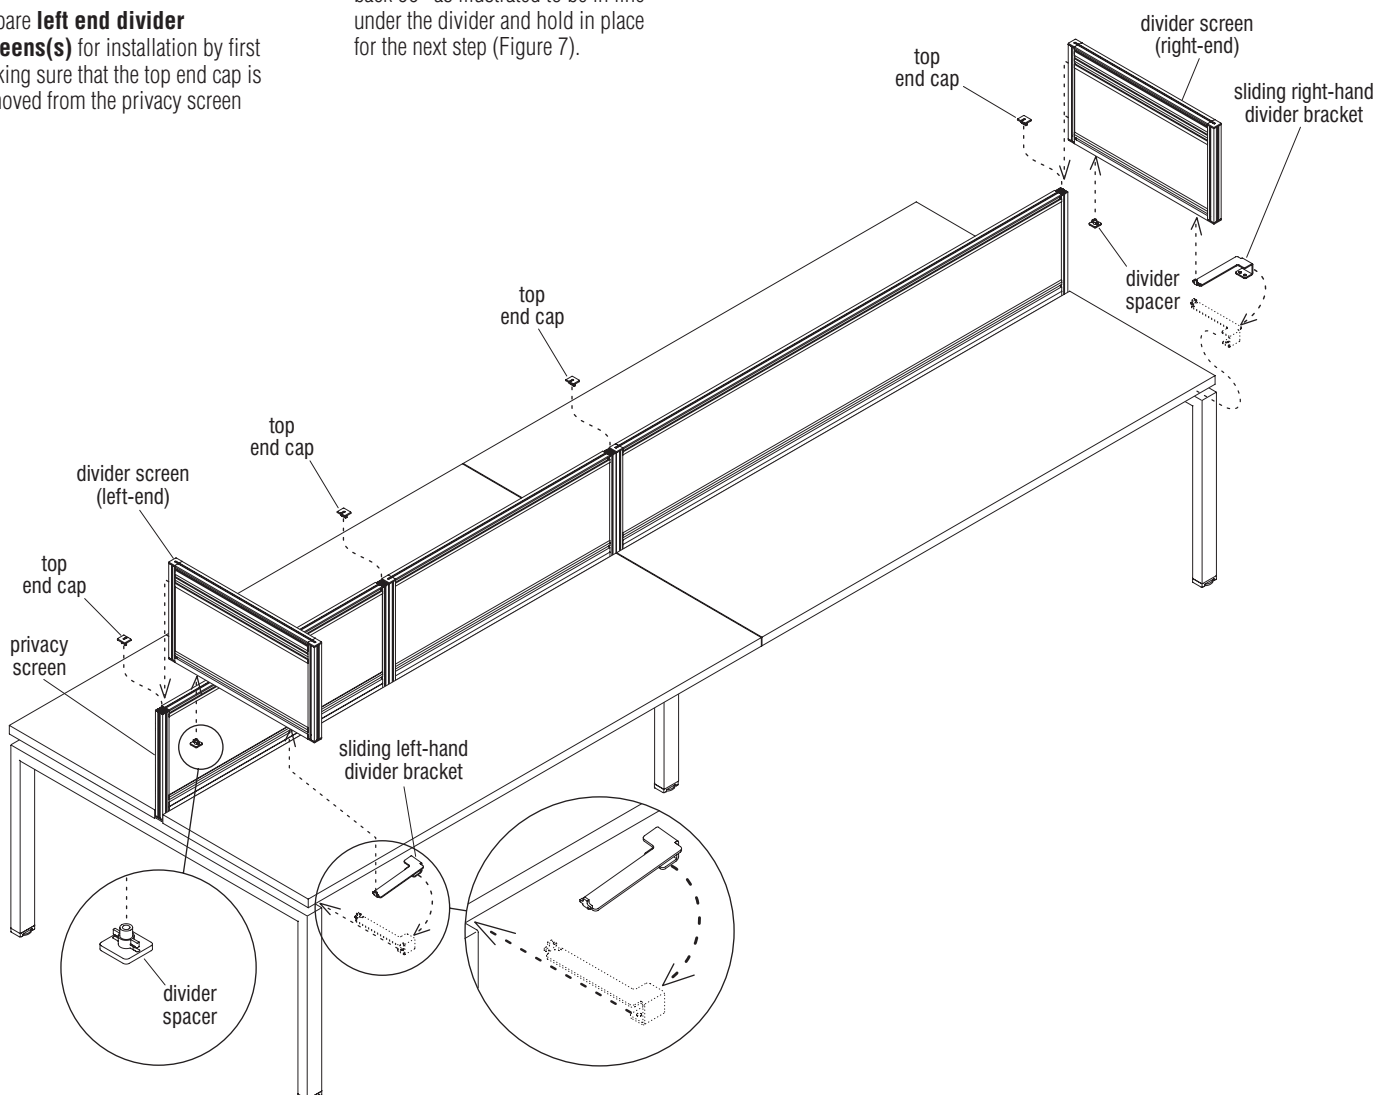

Figure 7 - Dual-Sided Benching with Sliding Worksurfaces - End Divider Screen Installation
where the end divider will install. Next, locate a "divider spacer", position it into the horizontal T-slot at the underside of the divider screen **at least 6" from the back** and twist the spacer 90° to lock it in position (Figure 7).
2. Locate a "sliding left-hand divider bracket" and rotate it 90° out of line with the divider as shown and insert the front "T-tab" into the horizontal T-slot in the underside of the divider screen. Once the T-tab is engaged, rotate the sliding left divider bracket back 90° as illustrated to be in line under the divider and hold in place for the next step (Figure 7).
3. Position the divider screen at the end adjacent the privacy screen such that the attachment screw heads at the back of the screen nest into the vertical T-slot in the privacy screen. Slide the divider screen down while holding the sliding left-hand divider out to clear the front of the worksurface until the divider screen rests on the worksurface (Figure 7).
4. Align the end divider screen straight with the worksurface side, press the sliding divider bracket in to meet the front of the worksurface and tighten the set screws at the underside of the divider bracket. Only tighten the set screws so the tops of the set screws are flush with the bracket face. Finally, replace the top end cap removed in step one. Repeat process following steps 1 through 4 for right-end divider using a "sliding right-hand divider bracket" (Figure 7).